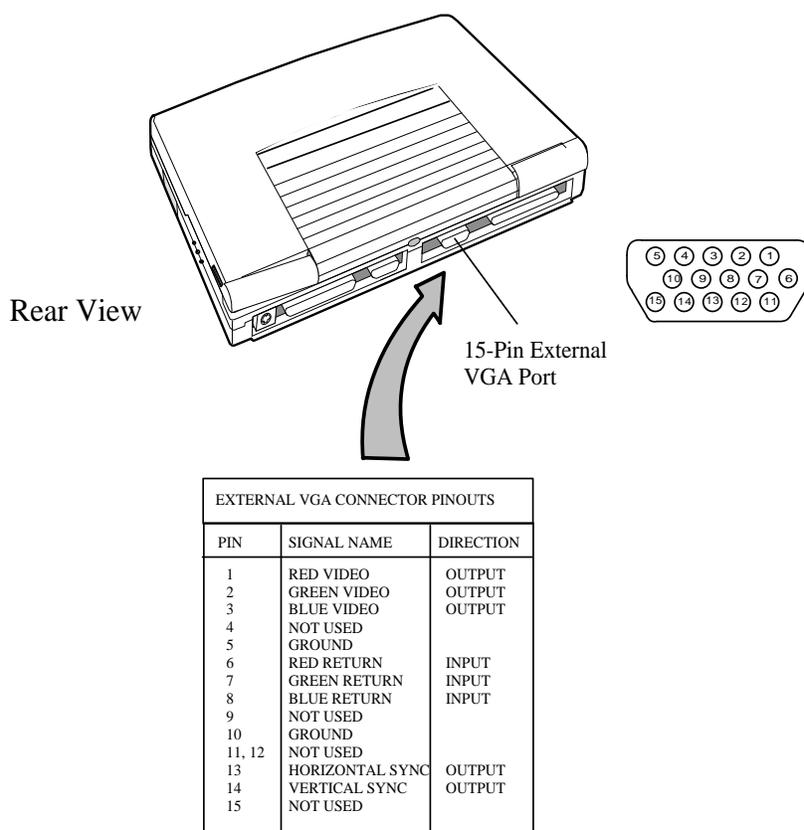

Figure 2-9 External VGA Pinouts
and pinouts are shown in Figure 2-9.
2. Connect the 15-pin external VGA cable from the monitor to the VGA connector on the notebook computer (refer to Figure 2-9).